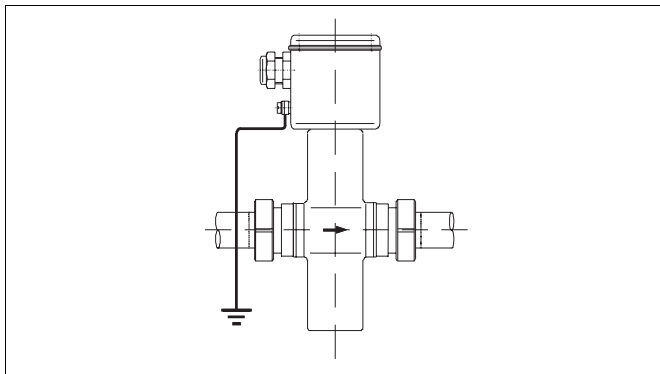
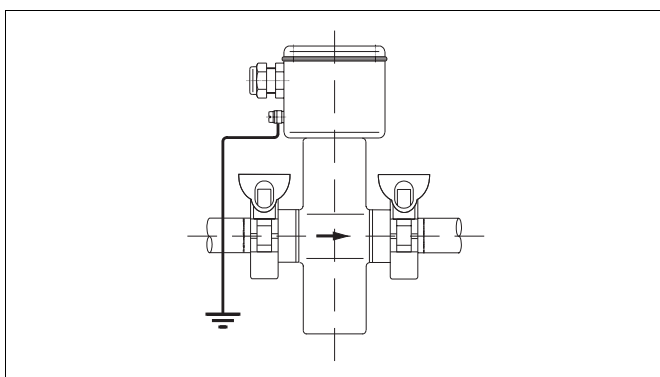

Fig. 32 Flowmeter Primary 1/10" - 4" :DN 3 -100,
Fig. 33 Flowmeter Primary 1/10"- 2-1/2" : DN 3- 65,
- The ground screw in flowmeter primaries Model DS21_ is located on the lower section of the connection box. For instrument designs with aseptic connectors, Tri-Clamp and hose connectors the meter tube is in electrical contact with the fluid. It is only necessary to connect the ground connection on the flowmeter primary to ground, see Fig. 32 and Fig. 33 .